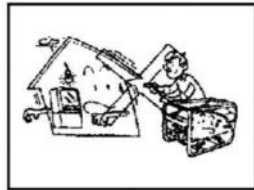

Fig3
3. Do not connect it to a household circuit without a guidance. (Fig 3)